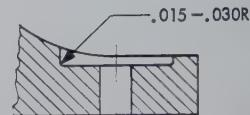

FIG. 16
**Corners — Spotfaced Holes:** Spot-faced holes shall have a corner radius from .015 to .030. See Fig. 16.